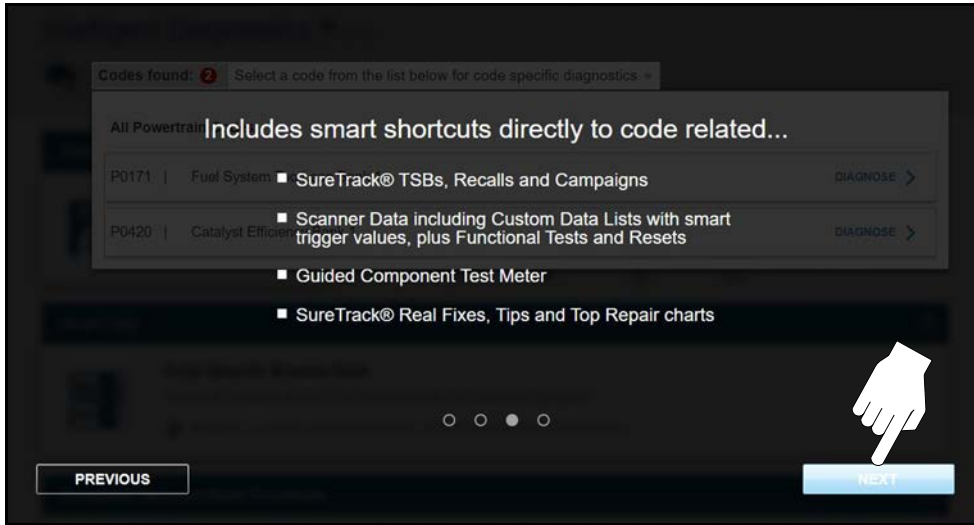

Figure 4-51 Intelligent Diagnostics Feature Descriptions
4. As the demo continues, navigational hints and code-specific features are described (Figure 4-51). Select **Next** to continue.